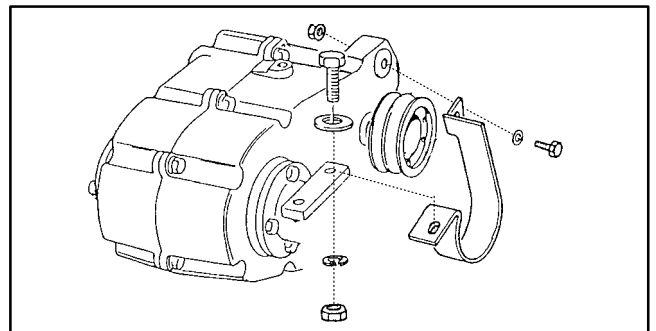

Figure 8
- A. Cap screw (item 17) and pyramidal washer (item 19).
- B. Four (4) cap screws (item 5) and pyramidal washers (item 4).
- C. Four (4) cap screws (item 30), lock washers (item 8) and nuts (item 31). NOTE: One of these cap screws is used to secure belt guide (Fig. 8).
10. If necessary, brake disc (item 29) can be removed from transaxle brake shaft by loosening two (2) set screws (item 27) and sliding disc from shaft. Locate and retrieve woodruff key (item 16).
- A. Remove three (3) cap screws (item 15) and lock washers (item 14) that secure taper lock bushing to pulley.
- D. Locate and retrieve woodruff key (item 16) that locates bushing on transaxle shaft.
- B. Apply Loctite #242 (or equivalent) to threads of two (2) sets screws (item 27). Secure brake disc on shaft with set screws.
- B. Place woodruff key (item 16) in input shaft slot. Slide pulley (item 13) and then taper lock bushing (item 12) onto transaxle shaft making sure that tapered surfaces of pulley and bushing align.
C. Align threaded holes of pulley with non-threaded holes of bushing. Loosely install three (3) cap screws with lock washers into pulley threads.
D. Align the outside of bushing with the inside of the groove on the input shaft (approx 1/8" from end of shaft). Tighten three (3) cap screws to a torque from 90 to 120 in-lb (10.2 to 13.6 N-m) in three equal steps and in a circular pattern to secure pulley and taper lock bushing.
3. If sprocket (item 11) was removed from transaxle shaft, apply antiseize lubricant to transaxle shaft before installing sprocket. Also, apply Loctite #242 (or equivalent) to set screws (item 6) before installation.
- A. Four (4) cap screws (item 30), lock washers (item 8) and nuts (item 31). NOTE: Leave front cap screw on input shaft side of transaxle loose until belt guide is installed (Fig. 8).
- C. Cap screw (item 17) and pyramidal washer (item 19).